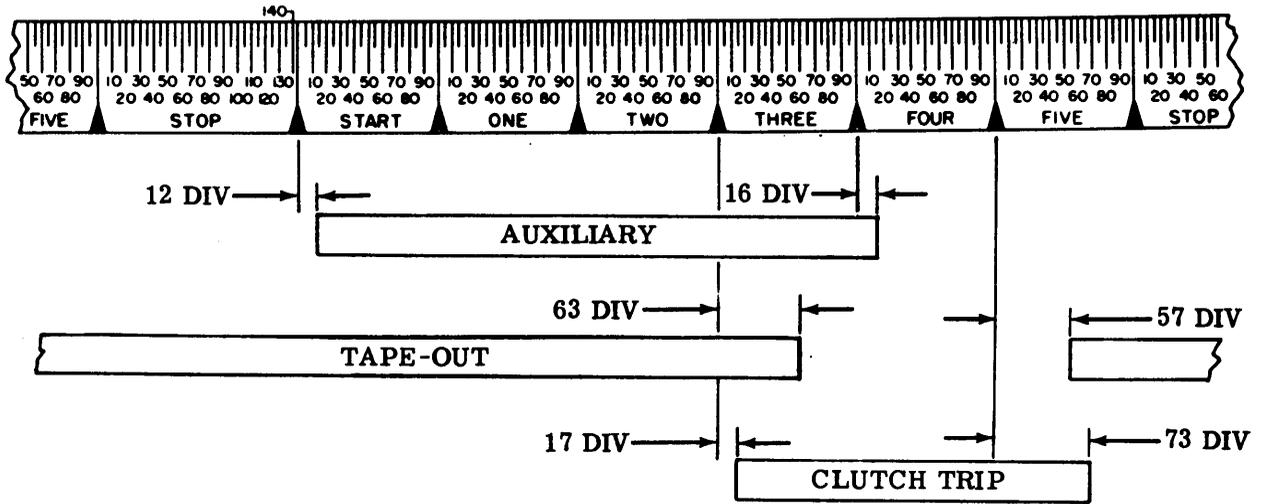

Figure 16 - Auxiliary, Tape-Out, and Distributor Clutch Trip Contacts -- 2-Cycle Cam
3.18 Transmitter Contacts — Auxiliary, Tape-Out, and Distributor Clutch Trip (Figure 16):